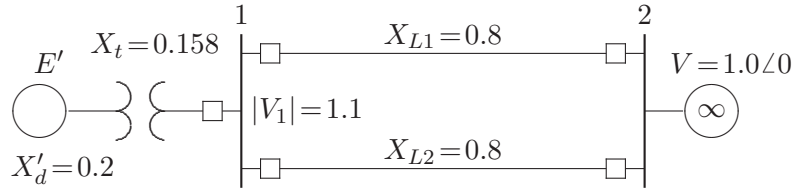

FIGURE 92
11.6. A 60-Hz synchronous generator has a transient reactance of 0.2 per unit and an inertia constant of 5.66 MJ/MVA. The generator is connected to an infinite bus through a transformer and a double circuit transmission line, as shown in Figure 92. Resistances are neglected and reactances are expressed on a common MVA base and are marked on the diagram. The generator is delivering a real power of 0.77 per unit to bus bar 1. Voltage magnitude at bus 1 is 1.1. The infinite bus voltage $V = 1.0 \angle 0^\circ$ per unit. Determine the generator excitation voltage and obtain the swing equation as given by (pr11.36).